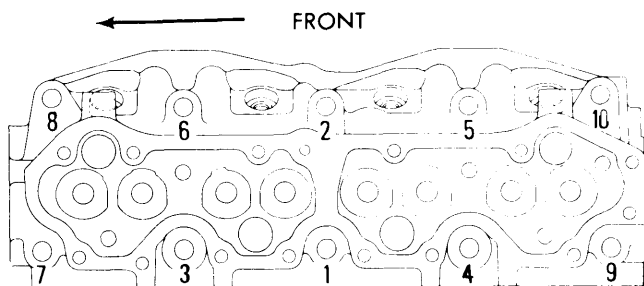

Fig. 1 Cylinder Head Tightening Sequence
- 5) Thoroughly clean gasket surfaces on crankcase and cylinder head. Use new gasket and install with word "Alto" up. Reverse removal procedure to install remaining components. Tighten cylinder head nuts to 69 ft. lbs. (9.5 mkg) in sequence as shown in Fig. 1. Make sure timing belt is properly installed.